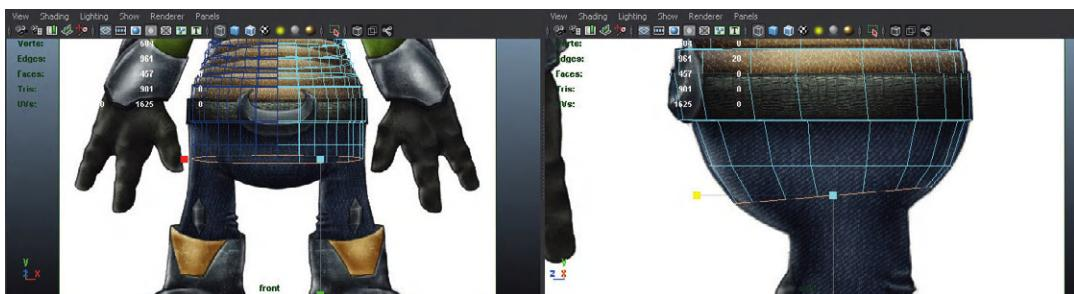

FIG. 4.62 Extruding down to fill out the hips and prepare for the leg.
Step 80: Continue extruding down to the widest part of the hips (Fig. 4.62).